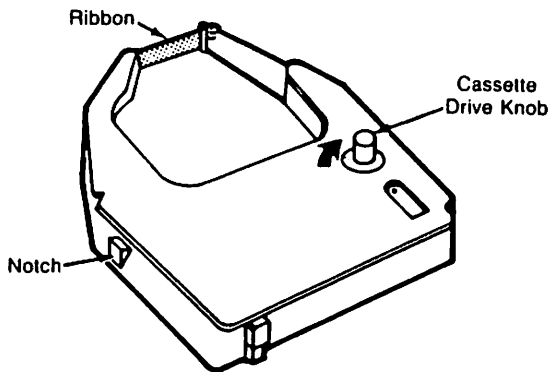

Figure 6 Ribbon cassette
5. Turn the cassette drive knob in the direction of the arrow (clockwise) to provide the proper ribbon tension. Refer to Figure 6.